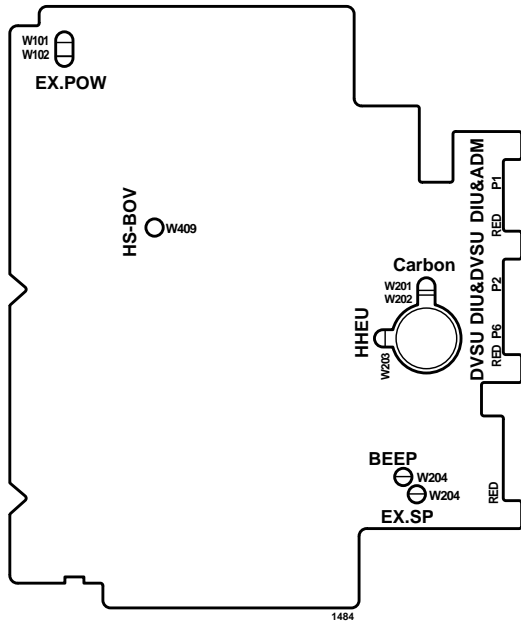

Figure 9-8 DKT2010-H Strap and Connector Locations
Note See Figures 9-8~9-10 for Steps 7~8.
2. Install a strap in the HS-BOV W409 location (see Figure 9-8).